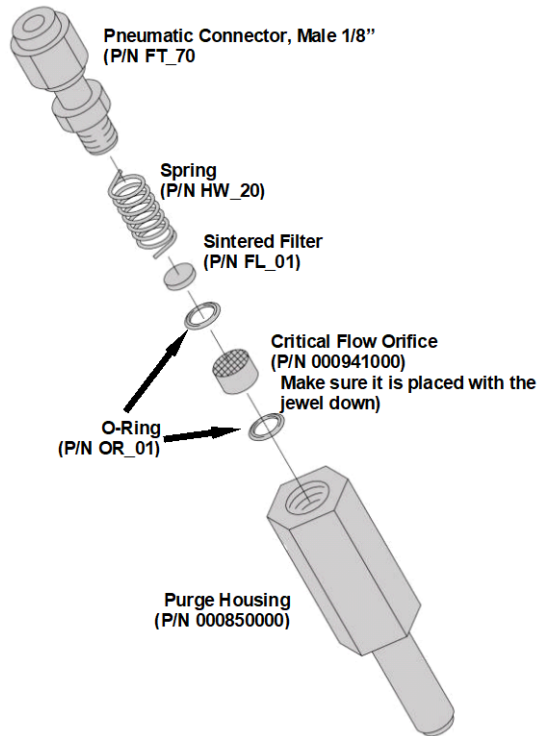

Figure 7-7. Critical Flow Restrictor Assembly Disassembly
4. Remove the fitting and the components as shown in the exploded view in Figure 7-7.